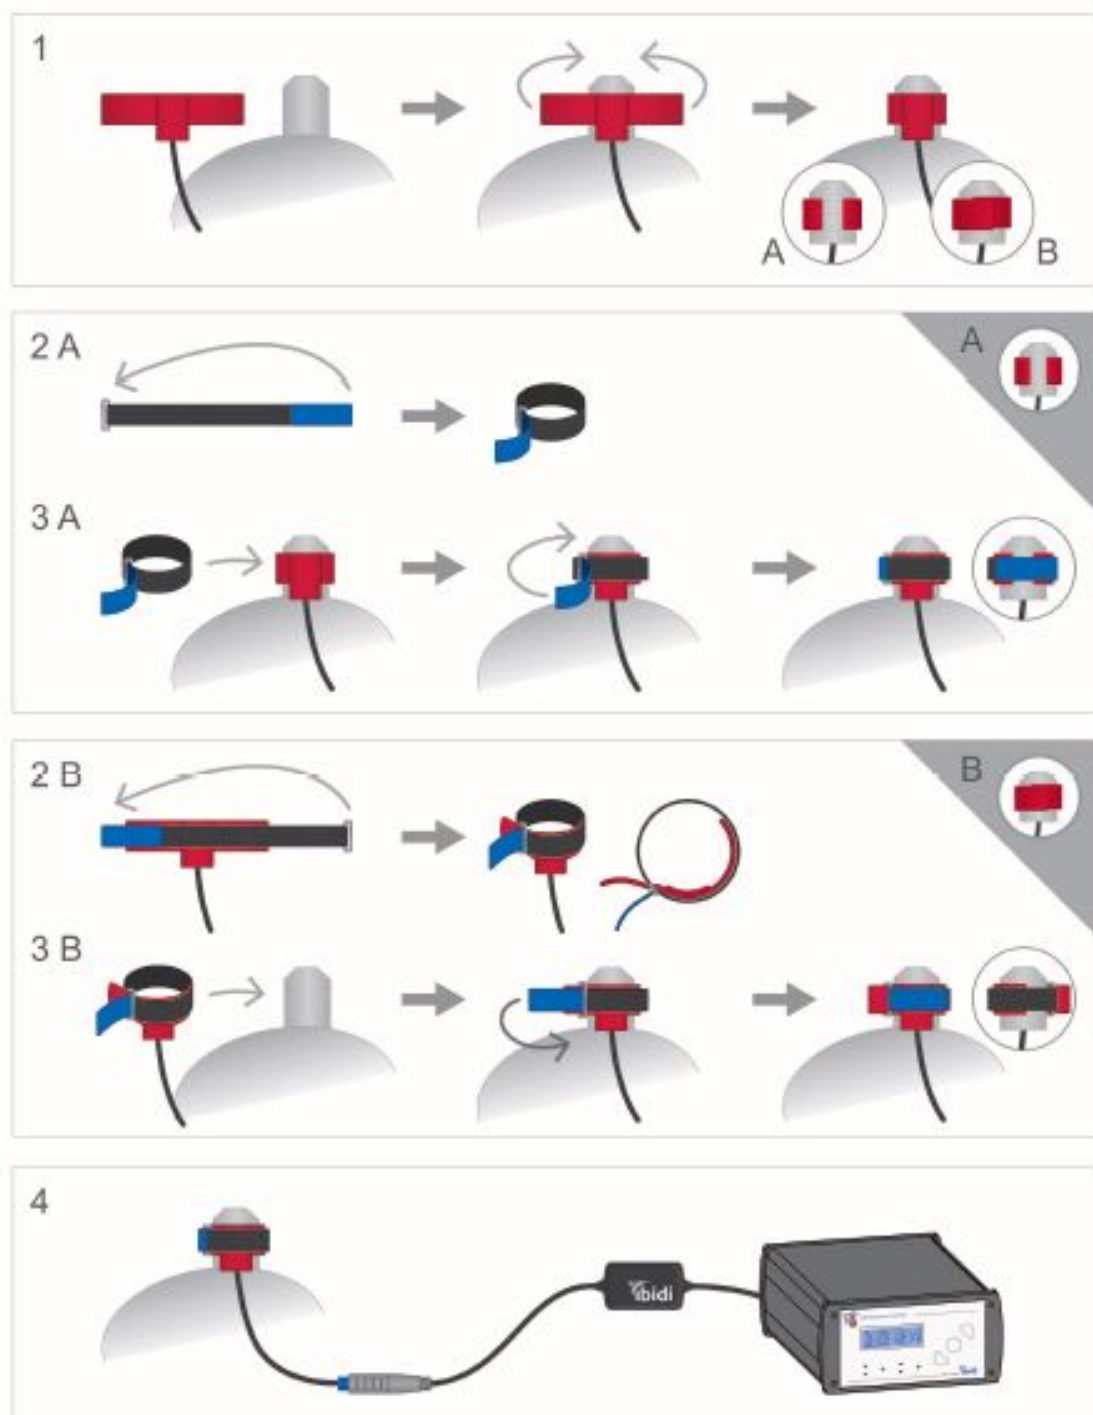

Figure 2: Mounting of the Objective Heater to an objective.
Objectives come in different sizes and lengths, depending on manufacturer and magnification. Hence, there are two different ways to mount the Objective Heater to a microscope objective (Figure 2).
**Figure 2:** Mounting of the Objective Heater to an objective. To control the temperature of the Objective Heater, please follow the instructions of the Temperature Controller (see Instructions). Optional: To setup communication with the IncuControl Software, use a USB cable to connect the Temperature Controller to the computer.